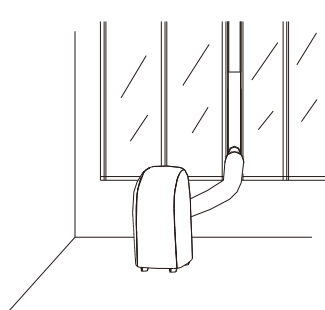

Fig.11
12. Whole unit assembly well as Fig11 drawing illustrated.